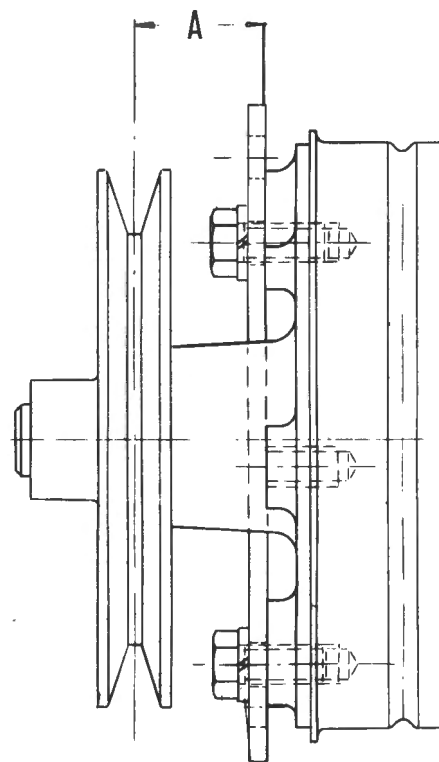

Fig. Q-13
- 5 Remove the tool and ensure that the pulley is correctly positioned. The distance from the back face of the bracket to the centre of the Vee should be 32 mm (1¼ in). Fig. Q-13.